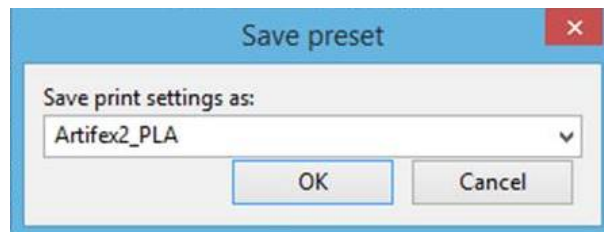

Figure 3.5: Saving print settings in Slic3r
- On the “Print Settings” page, click the “Save” icon button next to the configuration file name “Artifex2\_PLA.ini”. A window will pop up for you to enter the name of current Print Settings (Figure 3.5). Here, we just use the same name as the configuration file “Artifex2\_PLA”. Then, click “OK”. Do the same to save filament settings and printer settings under the name “Artifex2\_PLA”. Then, close the Slic3r program window.